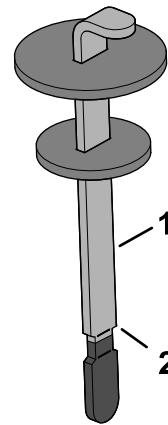

Figure 180
4. Remove the dipstick from the filler neck and wipe it with a clean rag. Insert the dipstick into the filler neck; then remove it and check the level of the fluid. The fluid level should be up to the mark on the dipstick (Figure 180).